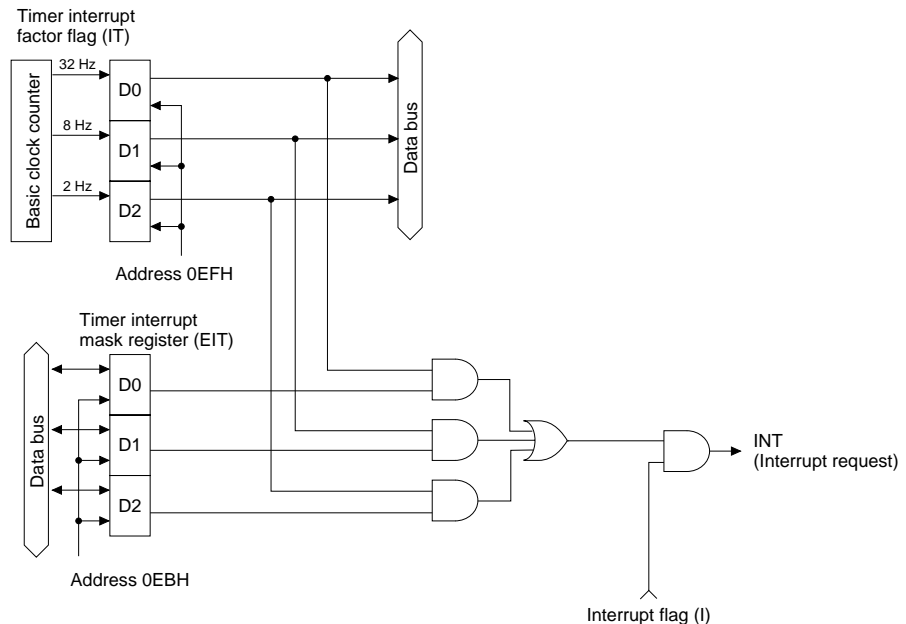

Fig. 3.12.3
The flag is reset, when it is loaded by software. (See Figure 3.12.3.)
- EIT32** This register enables or masks the 32 Hz timer interrupt. The CPU is interrupted if it is in the EI state when the interrupt mask register (EIT32) is set to "1" and the interrupt condition flag (IT32) is "1". (See Figure 3.12.3.)
- EIT8** This register enables or masks the 8 Hz timer interrupt. The CPU is interrupted if it is in the EI state when the interrupt mask register (EIT8) is set to "1" and the interrupt condition flag (IT8) is "1". (See Figure 3.12.3.)
- EIT2** This register enables or masks the 2 Hz timer interrupt. The CPU is interrupted if it is in the EI state when the interrupt mask register (EIT2) is set to "1" and the interrupt condition flag (IT2) is "1". (See Figure 3.12.3.)